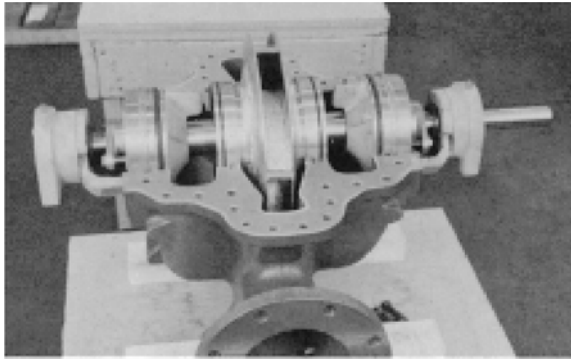

FIGURE 26 – UPPER CASING HALF REMOVED
22. Set the rotating element in the pump casing (2-001-0), assuring correct rotation. Locate both stuffing box tongues in their respective casing grooves. Locate pins (3-943-9) in the stuffing box and the casing wear rings in their respective slots at the casing parting surface. Correct any O-ring bulging (See Figure 26).